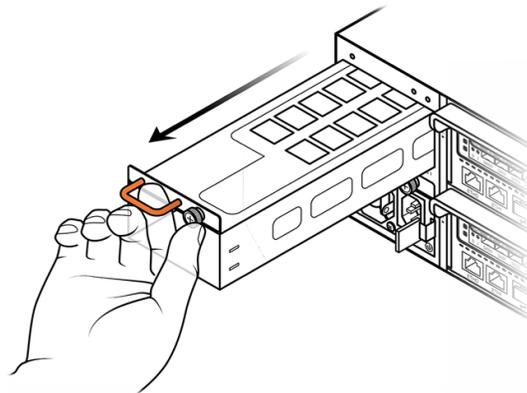

Figure 3-6. Removing a PSM
4. Grip the PSM by the handle and carefully pull it from the chassis. See Figure 3-6.